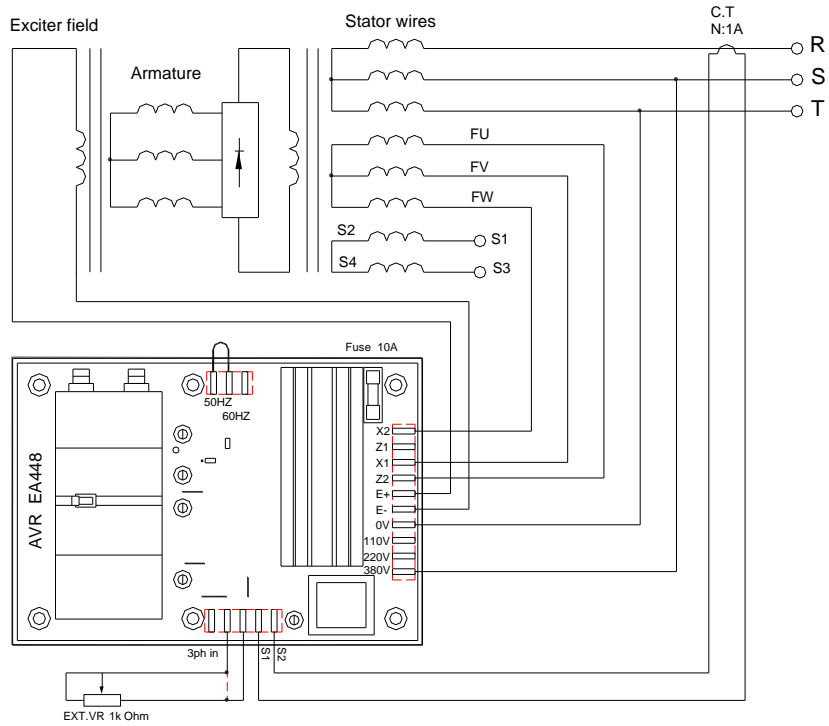

Figure 3 Three phase wiring
- (1) When excitation power is three phase input, connect X2, X1, Z2. See Figure 3.
- (2) Fuse capacity : 10A / 250V.
- (3) Under normal operation, the LED will remain illuminated. When abnormal auxiliary power input occurs, the LED will switch off and automatically decrease rated output voltage (The decrease in voltage is different from generator to generator) and voltage adjustment becomes ineffective.